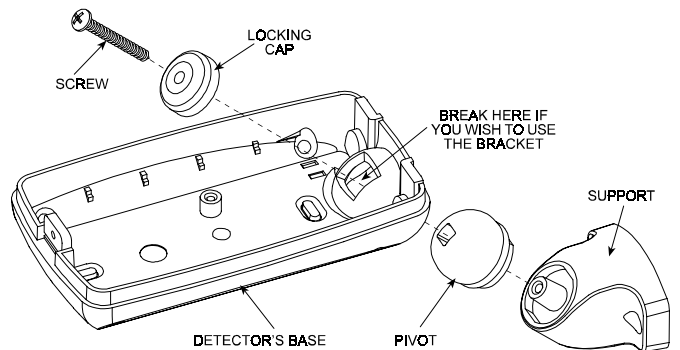

Figure 6. Attaching the Bracket
- C. Punch out the large knockout in the round bulge at the top part of the base (see Figure 6)
D. Assemble the bracket as shown in Figure 6.